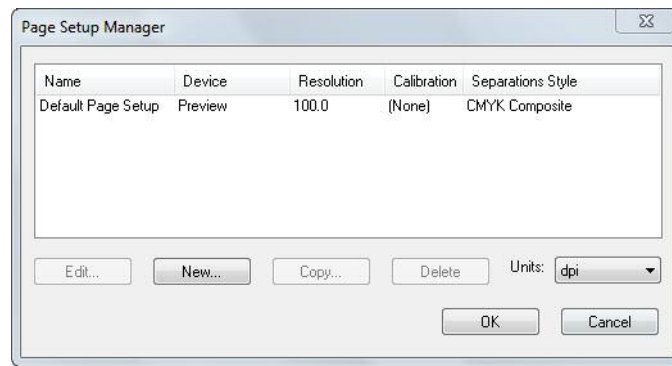

Figure 7 Page Setup Manager
1. Select Harlequin RIP > Page Setup Manager, to open the Page Setup Manager (Figure 7).